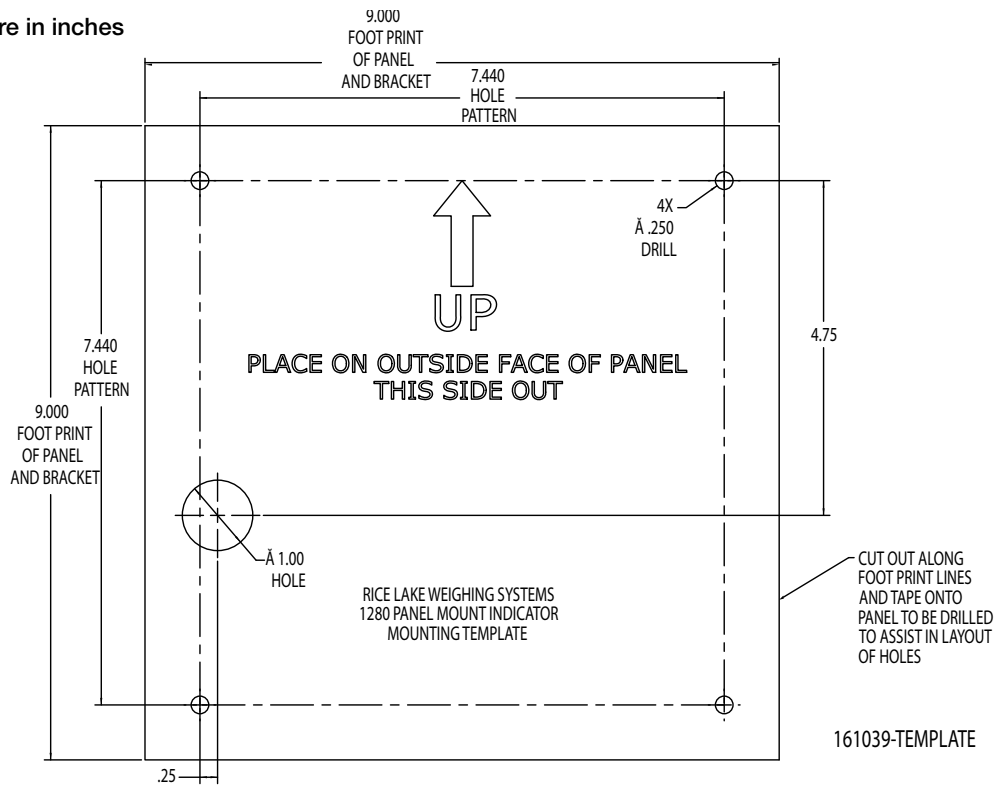

Figure 2-17. Panel Mount Dimensions
1. Tape the panel mount template to the outside of the panel. See Figure 2-15 and Figure 2-17.
This illustration is not to scale. It is for illustration purposes only. Use the dimensions to mark the holes for the panel mount, or use the template provided with the indicator. Do NOT use Figure 2-17 as a template.